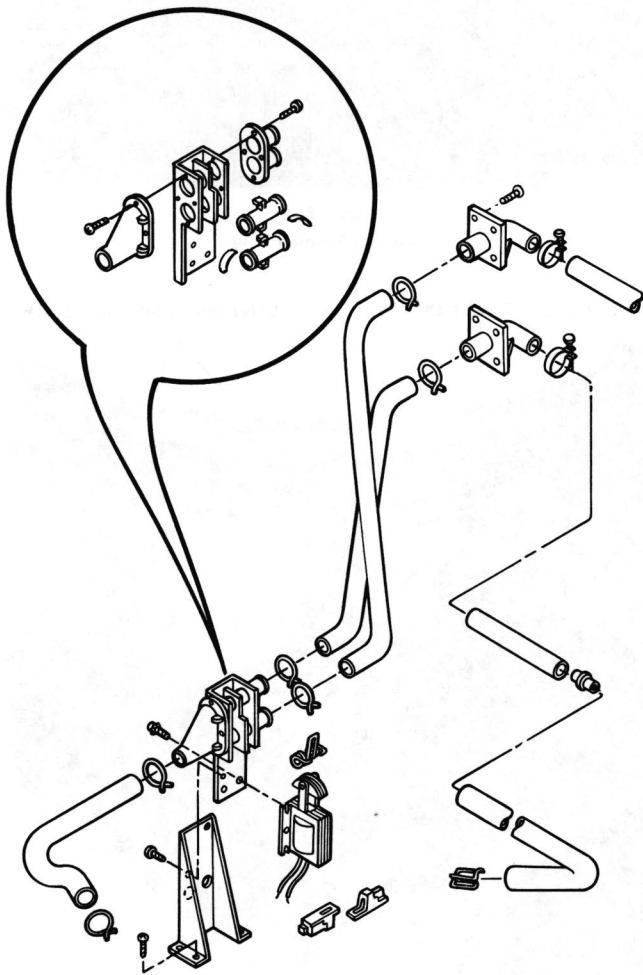

Figure 82
4. Replace component required; solenoid, return spring or valve body parts. See Figure 82.